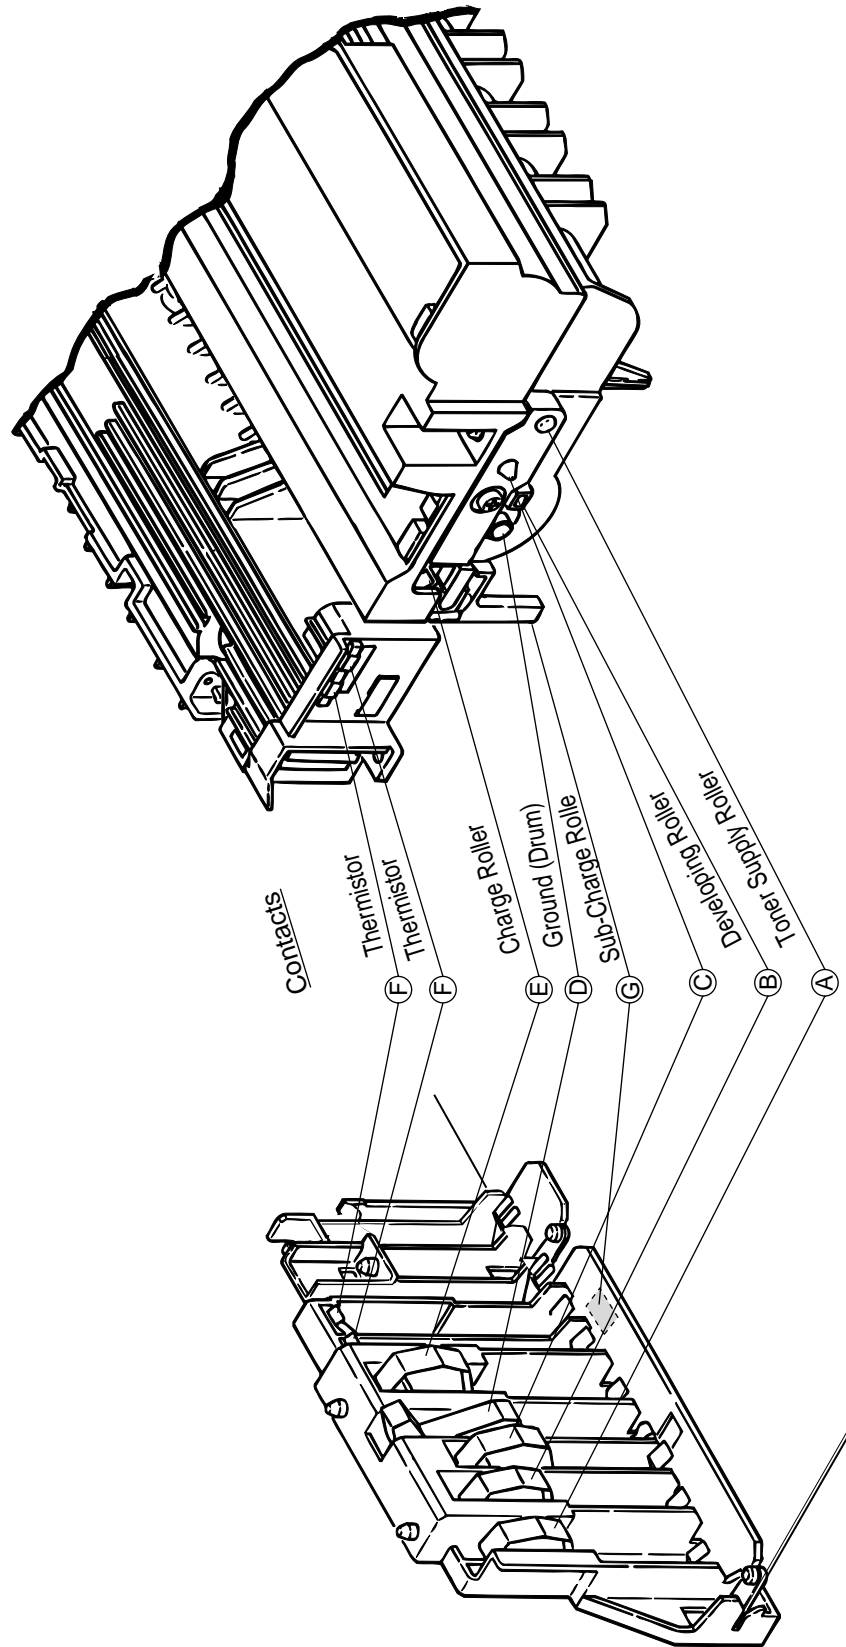

Figure 6-4
• Yes Check the heat contacts of the fusing unit and the contact assembly for poor contact (see Figure 6-4 contact ③).
▼ Yes Are the contact of the developing roller and the contact of the toner supply roller of the image drum cartridge in contact with the contact assembly properly (see Figure 6-4 (A) and (B))?